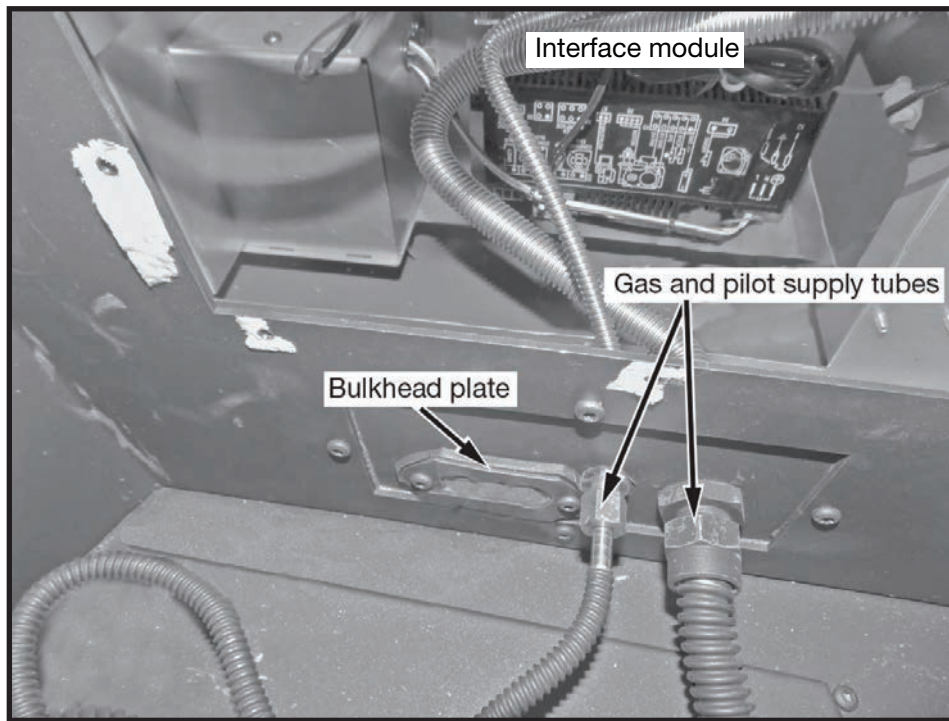

Figure 12: Gas and pilot supply tubes.
10. Attach the main gas supply line and the pilot gas supply line to the bulk head fittings and tighten (Figure 12). Ensure that there are no leaks.